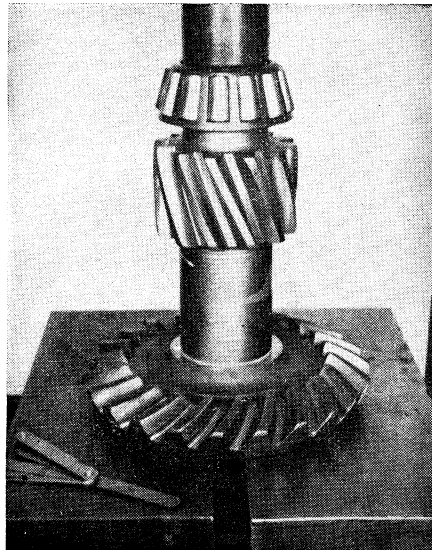

Fig. 62 Press bearing firmly against cross shaft shoulder on spur gear end
3. Press bearing firmly against cross shaft shoulder on spur gear end, Fig. 62.